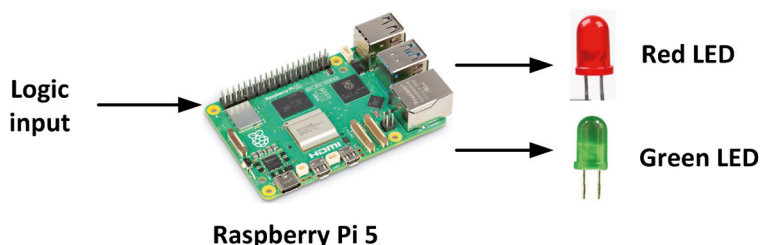

Figure 4.1: Block diagram of the project.
**Block diagram:** Figure 4.1 shows the block diagram of the project. Logic input is applied to the terminal labelled Logic Probe. Because the Raspberry Pi 5 inputs are not +5 V compatible, the logic input voltage must not be greater than +3.3 V.